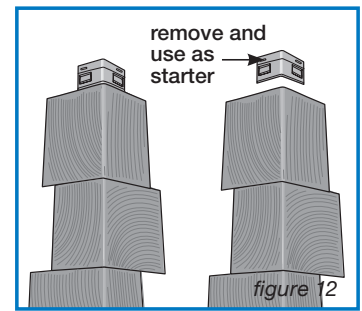

figure 12
1. Remove nail hem from cornerpost as shown in figure 12 and use as your starter. Install fastener through each nail hole. Note: save the corner that was cut for finishing final course.